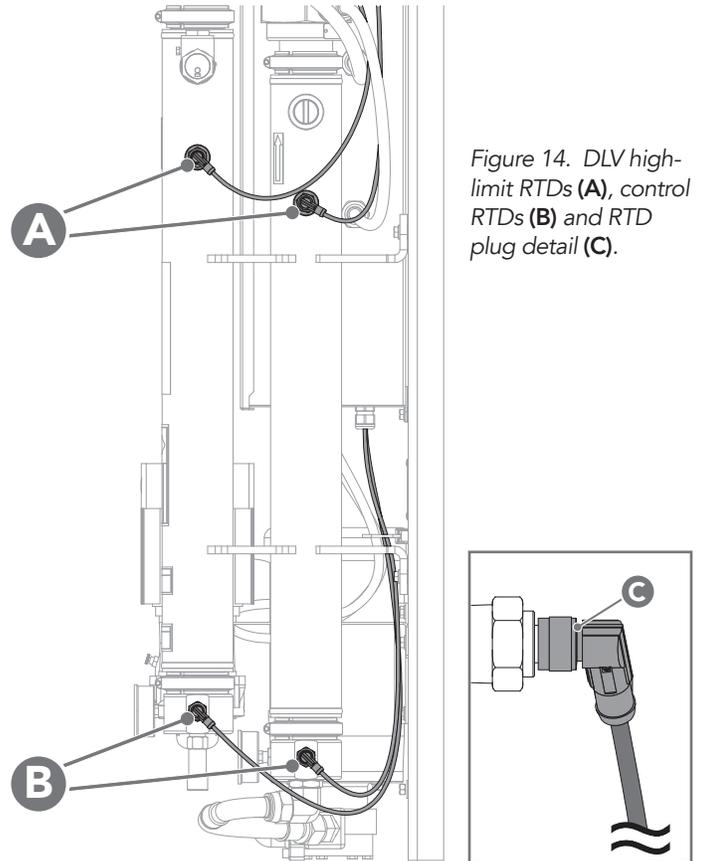
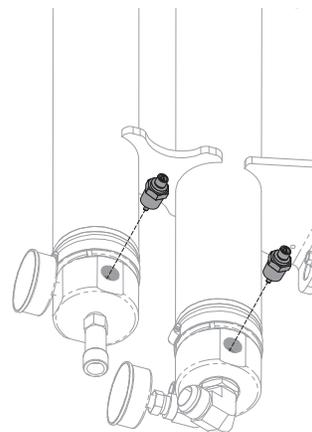

Figure 14. DLV high-limit RTDs (A), control RTDs (B) and RTD plug detail (C).
Figure 15. RTD plugs shown removed from DLV heating tanks.
- If there **is no continuity** between TCR terminals **T2** and **T3**, locate connected RTD on the heating tank. Unscrew the RTD plug from RTD. See **Table 2** and **Figure 14**, **Figure 15** on following page.
2. Close isolation valves. Drain fluid from the oil heating tank. Locate the RTD that requires replacement. See *Figure 14*.
3. Unscrew RTD plug. Remove plug. See *Figure 14*.
4. Unscrew RTD from tank. See *Figure 15*.